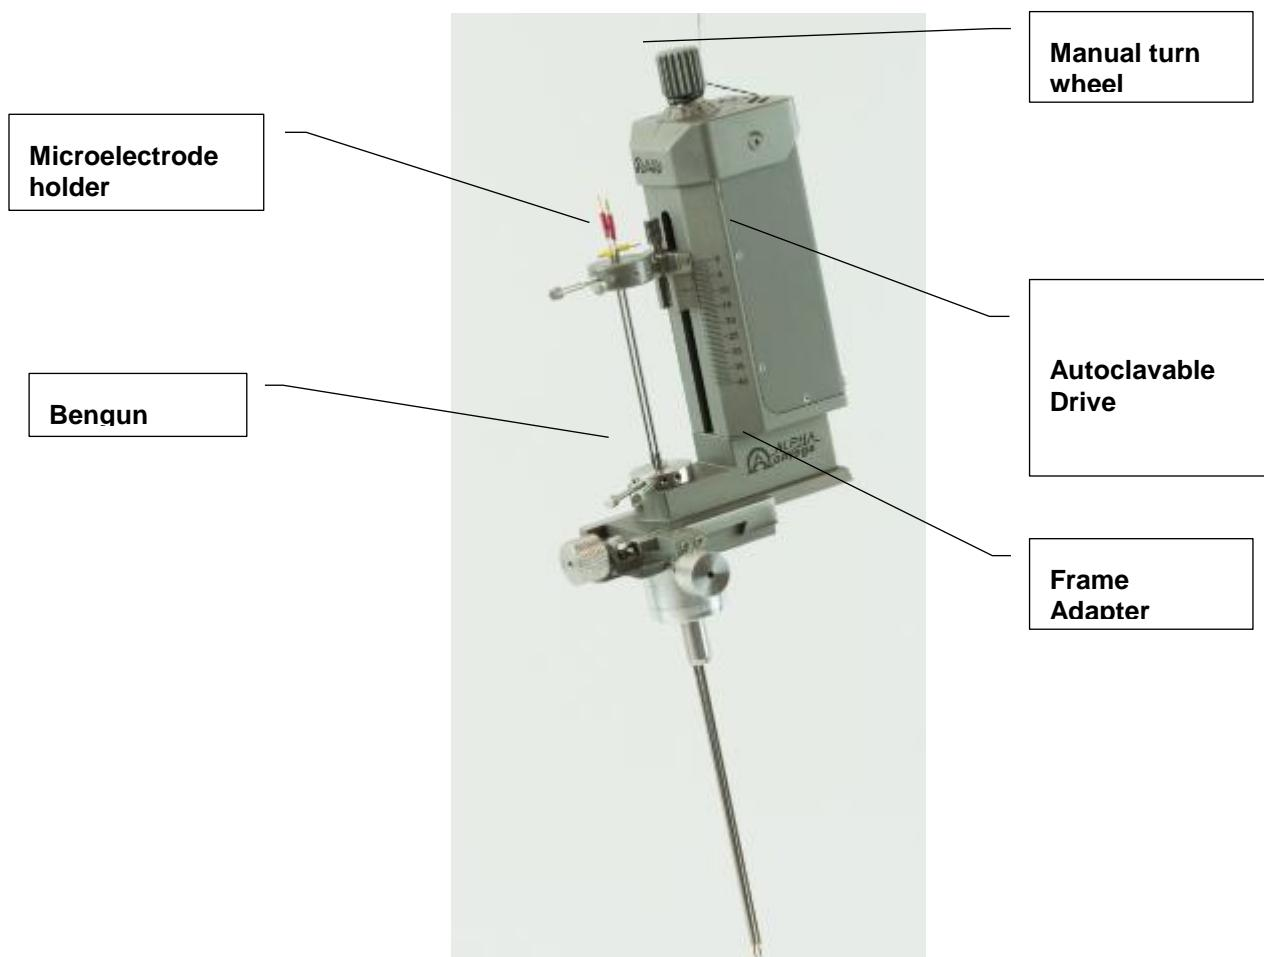

Figure 14: Autoclavable Drive
- The Autoclavable Drive and the components comprising the Autoclavable Drive module appear in Figure 14.